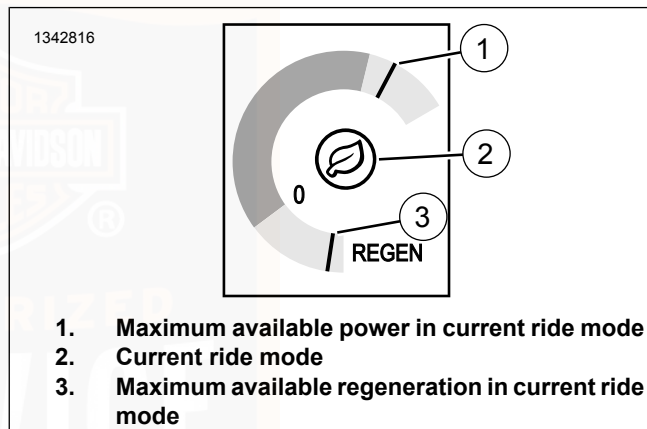

Figure 35. Power/Torque Widget
See Figure 35. The Power/Torque widget displays power and torque information related to the current ride mode. The Power/Torque widget displays the current ride mode (2), maximum available power (1) and maximum available regen (3).